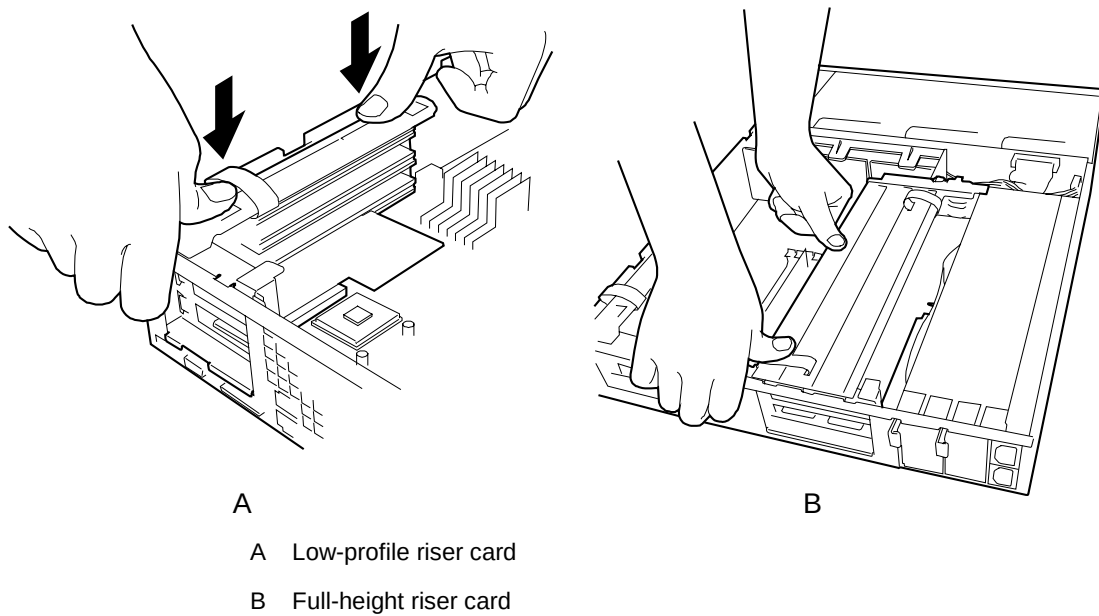

Figure 4-30. Installing the Riser Cards
11. Align the riser card with the slot on the system board, and firmly push the riser card until it is fully seated. See Figure 4-30.